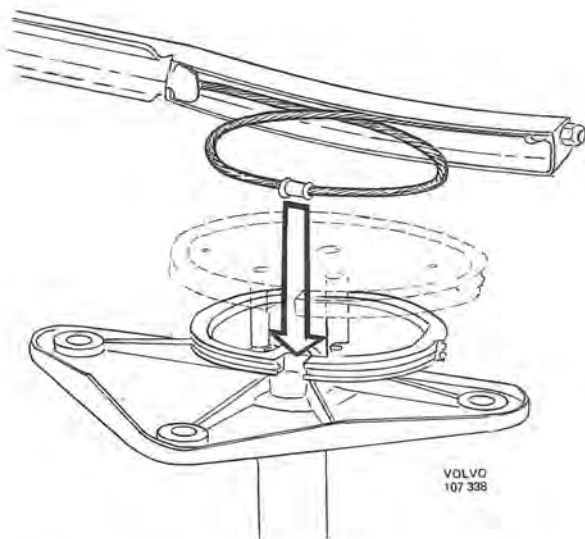

Fig. 3-104. Installing cable for parallel drive link, right-hand side
1. Place the cable's flange nipple in the small segment recess and thereafter prise the cable over the inner segment, see Fig. 3-104. Great care should be observed when doing this work so as not to score the segment or damage it in any other way, as this could lead to disturbance in operation. Tension the cable.